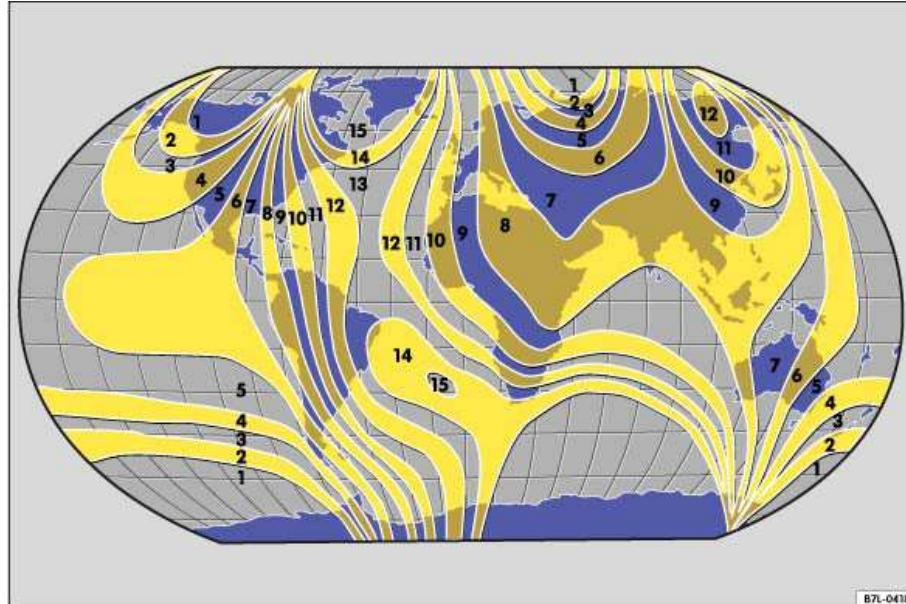

Fig. 16 Compass zones.
- Select the compass zone according to the current location ⇒ fig. 16.